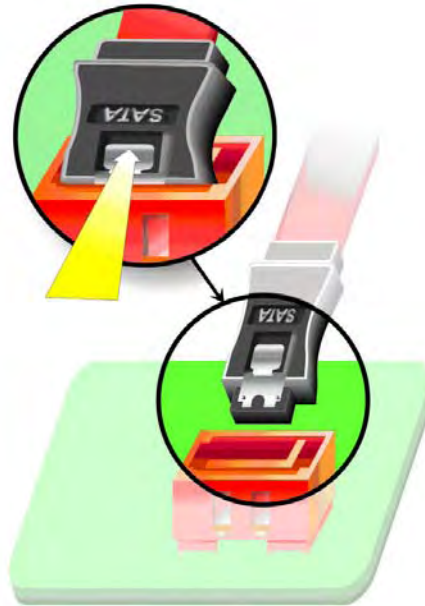

Figure 5-17: SATA Drive Cable Connection
Step 2: **Insert the cable connector.** Press the clip on the connector at the end of the SATA cable and insert the cable connector into the onboard SATA drive connector. See **Figure 5-17**.